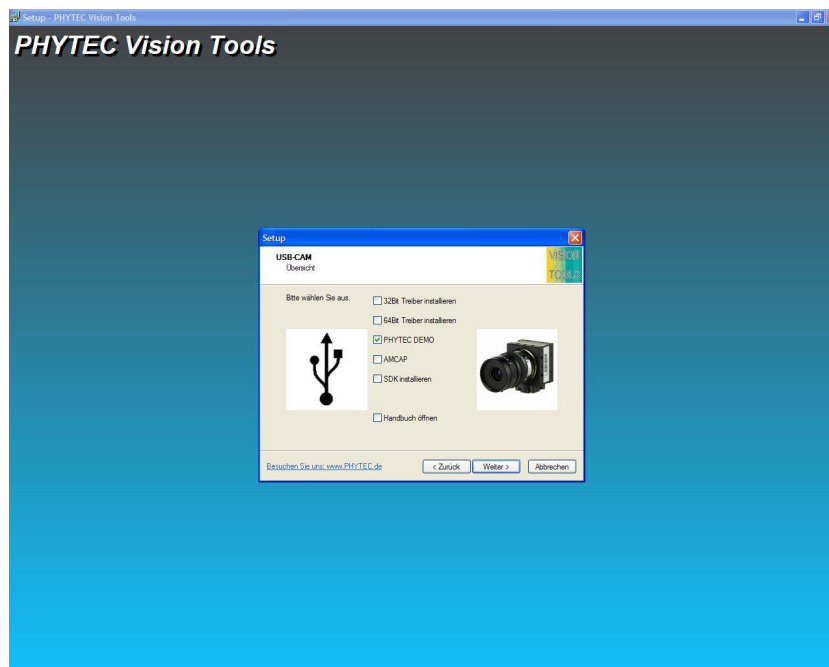

Figure 17: Installation Menu for the USB Cameras
- Click on *USB-CAM*. You will be taken to the installation menu for the PHYTEC USB cameras. Select *PHYTEC DEMO* (Figure 17) and click on *Next*.